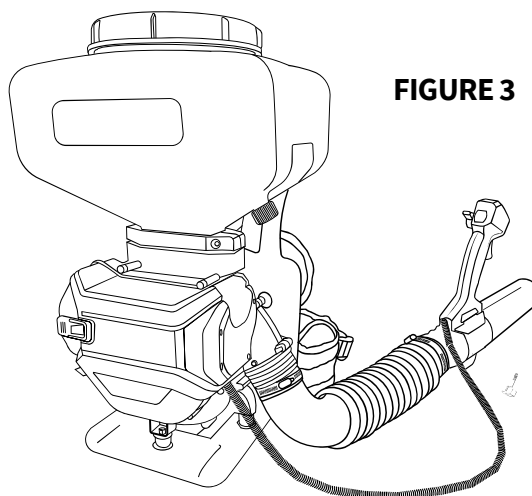

FIGURE 3
4.2.3 Slide the throttle control handle over the connecting pipe and secure in place with the screw. **FIGURE 3.**